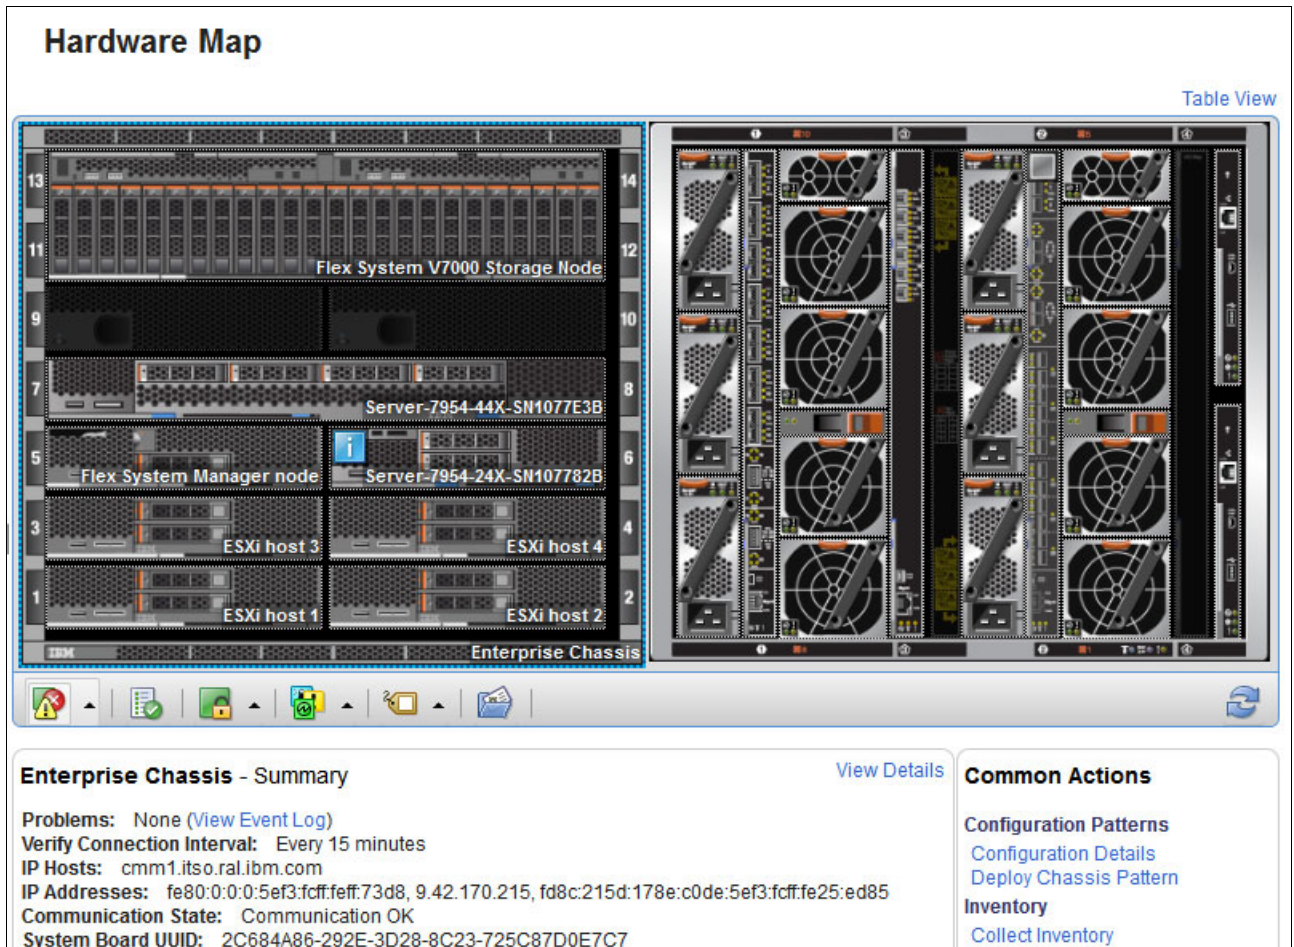

Figure 6-122 IBM Flex System Manager: Hardware Map
2. In the Chassis Manager, select the applicable chassis that will launch the chassis map for that chassis, as shown in Figure 6-122.